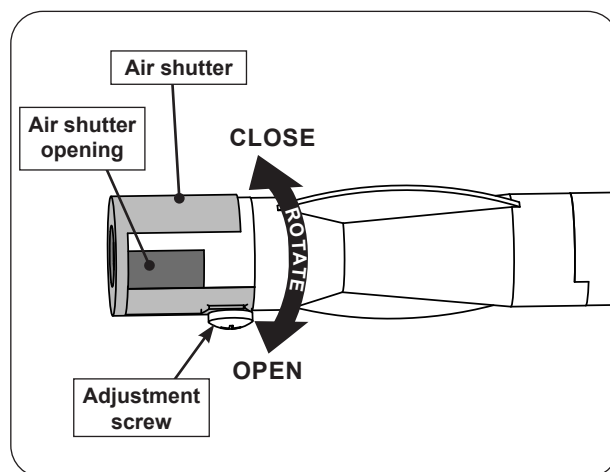

Fig. 41-2 Side burner air shutter adjustment detail
2. Loosen the adjustment screw with a screwdriver, then carefully rotate the shutter to open or close it. See Fig. 41-2 for details.